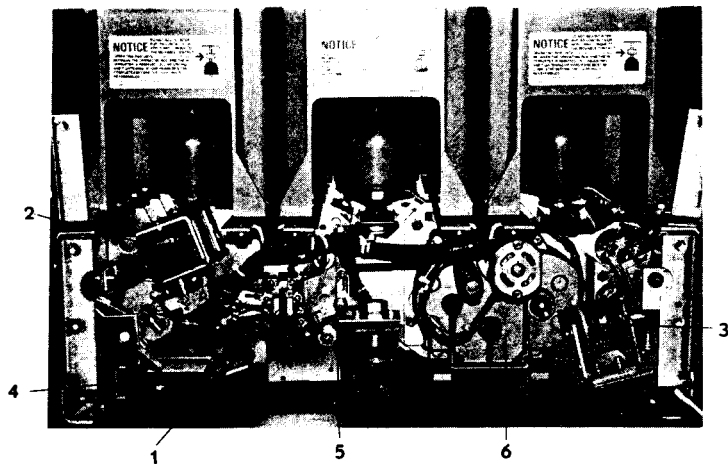

Fig. A7 Front View — Front Angle Plate Removed
Remove the breaker front plate to gain access to the 52Y relay. Remove the wires to the 52Y relay, (1) Fig. A7, (and resistor if used). Remove the relay by removing the two bolts which hold it to the mounting plate.
With the closing spring discharged and the breaker open, remove the breaker front angle plate to gain access to the spring charging motor, (6) Fig. A7.
Remove the breaker front cover, and Y relay mounting plate and the front caster wheel for access to the auxiliary switch. Remove the wires and metal jumpers from the auxiliary switch, (5) Fig. A7.